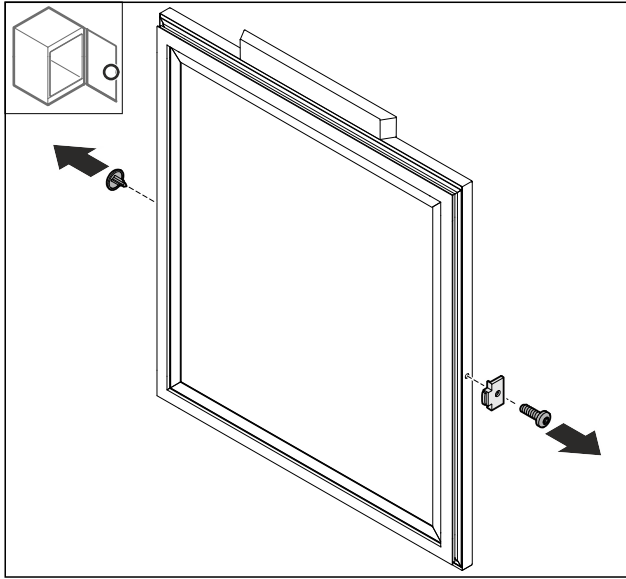

Fig. 69
- ▶ Remove the Fig. 69 (1) cover.
- ▶ Pull off the door stopper Fig. 69 (2).